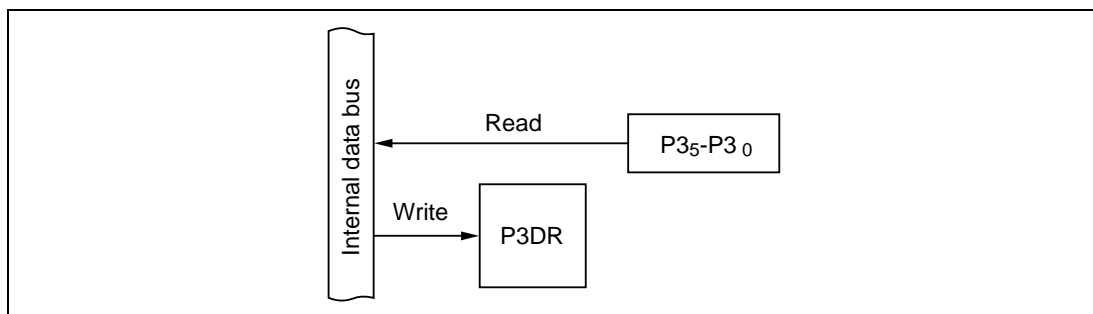

Figure 10-17 Input Port (Modes 1 to 7)
(1) Input Port (Modes 1 to 7): Figure 10-17 shows a block diagram illustrating the general-purpose input function. Table 10-11 indicates register read/write data. Values written in the port 3 data register (P3DR) have no effect on general-purpose input lines. When read, P3DR returns the value at the pin.